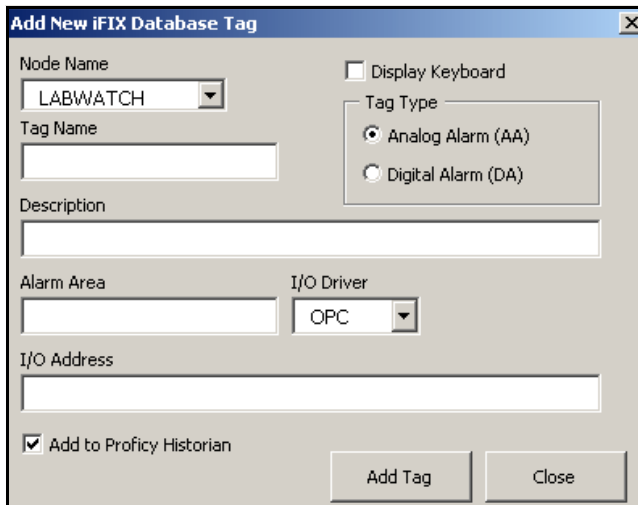

Figure 28: Add New iFIX Database Tag
2. The **Add New iFIX Database Tag** window (Figure 28 below) opens. From the **Node Name** drop-down list, click on the node to which you want to add the tag.